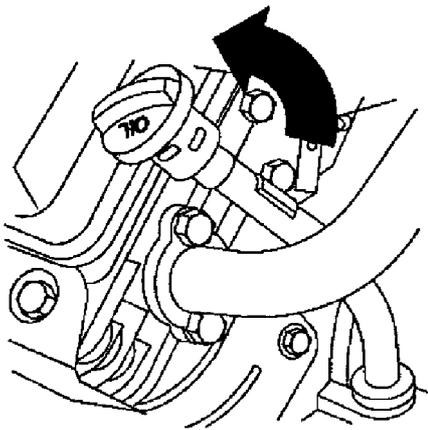

Figure 1
2. Remove the dipstick and wipe it with a clean cloth (Fig. 1). Insert the dipstick into the tube and make sure it is seated fully. Remove the dipstick and check the level of oil.